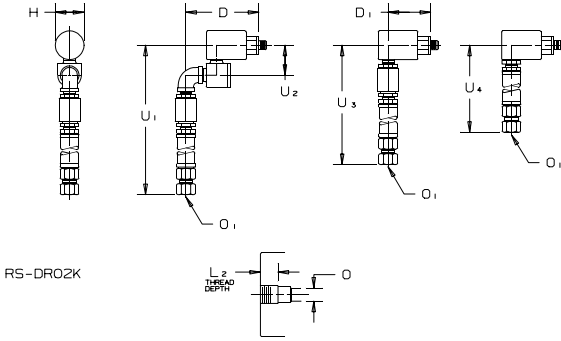

Figure 2
- 2.2.1 The rotorseal housing has an American National Pipe Thread air inlet as shown in Table 2. This connection to the rotorseal should always be through a flexible hose. Refer to Figure 2 for examples of mounting assemblies.